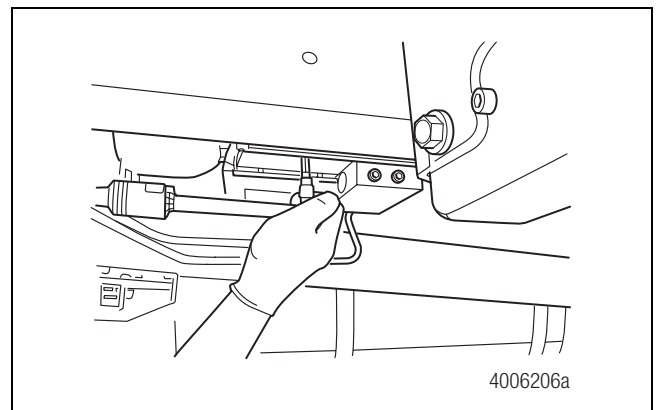

Figure 4.34
- Insert the pump retaining plug into the threaded hole. Use a 6 mm hex-head socket wrench to tighten the plug to  $195 \pm 18$  in-lb ( $22 \pm 2$  N•m). Figure 4.34.